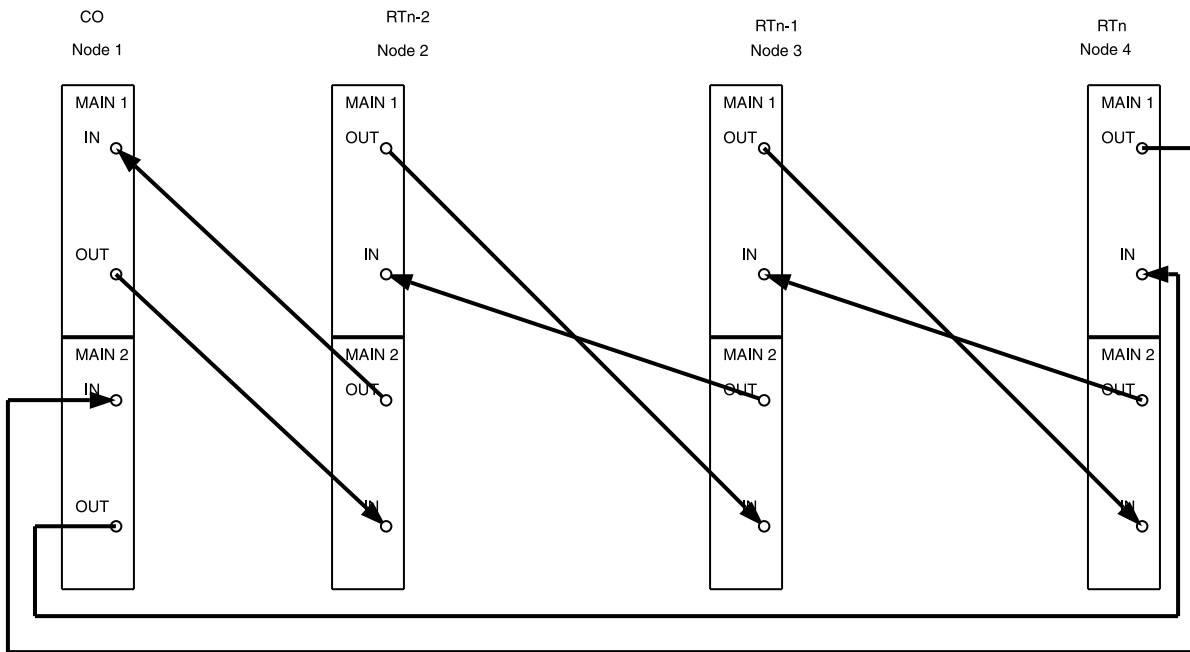

Figure 22 – DDM-2000 OC-3 Drop or Add/Drop Network to Ring Upgrade
49. Repeat this procedure from Step 38 for all remaining nodes to be converted. Figure 22 shows the completed ring configuration.